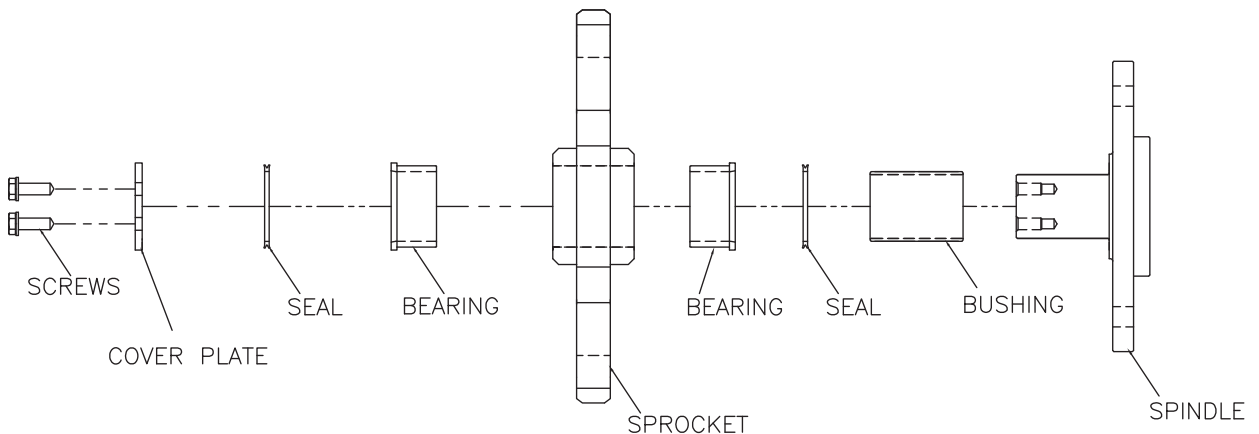

Fig. 5.8.L
- Lubricate and reassemble as shown in Fig 5.8.L